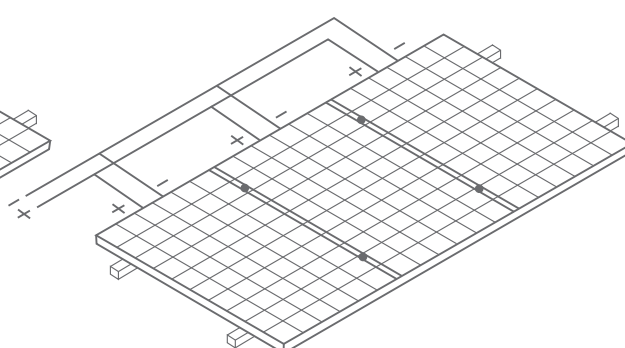

Figure 7
- When connected in parallel, the current output is equal to the sum of each string's current ( shown in Figure 7). Fuse is necessary for each module string. Please take reference to the local regulation. Recommended maximum parallel Modules configurations: Fuse rating/Isc+1.